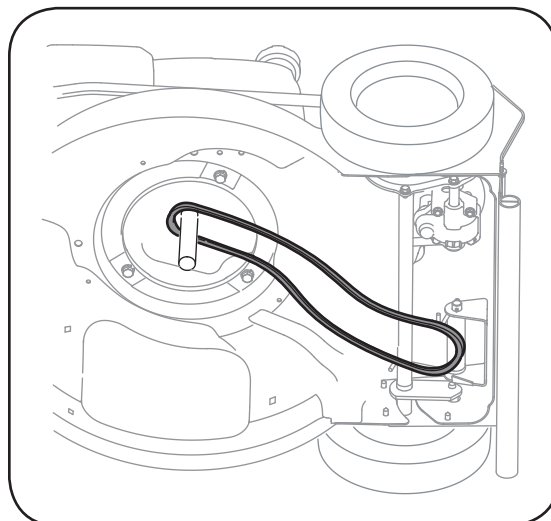

Figure 5-8: Remove belt from crankshaft after freeing it from the transmission pulley.
12. Remove belt from around the crankshaft, Figure 5-8. Discard the worn belt.